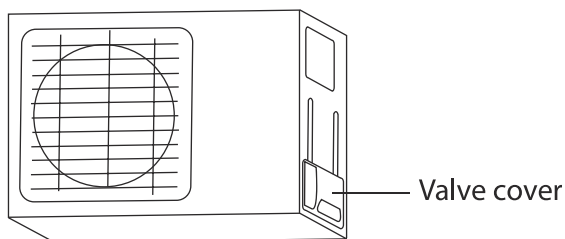

Fig. 5.9
- 1 Unscrew the cover from the packed valve on the side of the outdoor unit. (See Fig. 5.9)